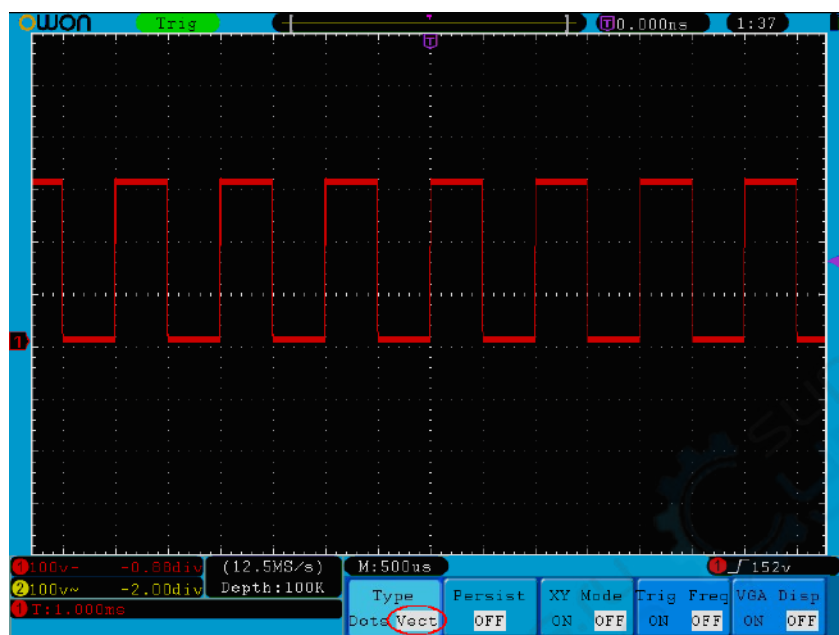
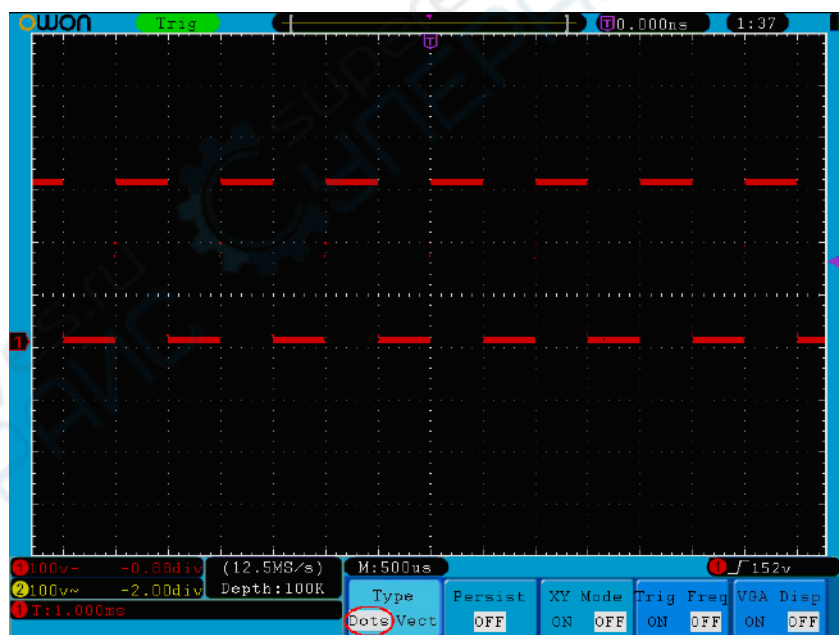

Figure 5-29 Display in the Vector Form
Figure 5-30 Display in Dots form
**Display Type:** With the **F1** menu selection button pushed down, you can shift between **Vect** and **Dots** types. The differences between the two display types can be observed through the comparison between *Figure 5-29* and *Figure 5-30*.